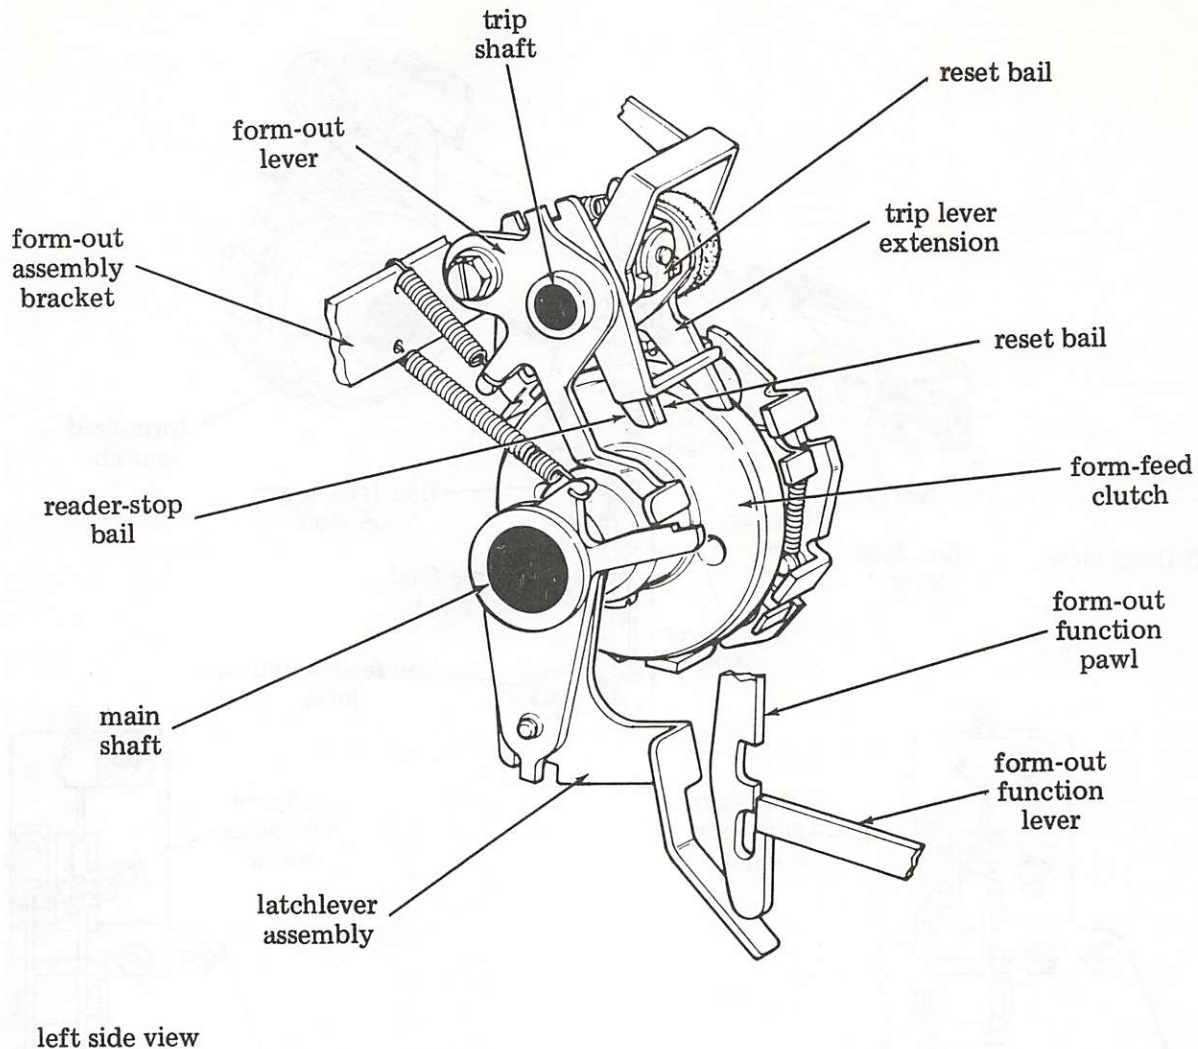

Figure 39 - Form-Out Mechanism (Sprocket Feed)
4.112 **Form Out:** When the typing unit receives the "form-out" code combination, the form-out function lever (Figure 39) moves up to engage the form-out function pawl. During the function cycle the pawl is pulled down. This action pivots the latchlever assembly which becomes disengaged from the form-out lever. Due to spring tension the form-out lever pivots to the rear. An extension on the form-out